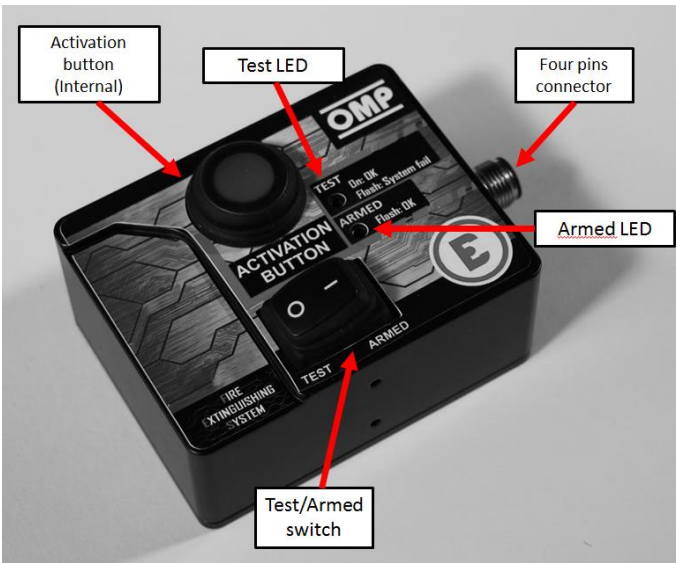

Fig. 10 Control box
- Nozzle for engine bay (black, for AFFF, ref. Figure 10)
Engine bay nozzles are fixed with the 90° connectors (Figure 10)